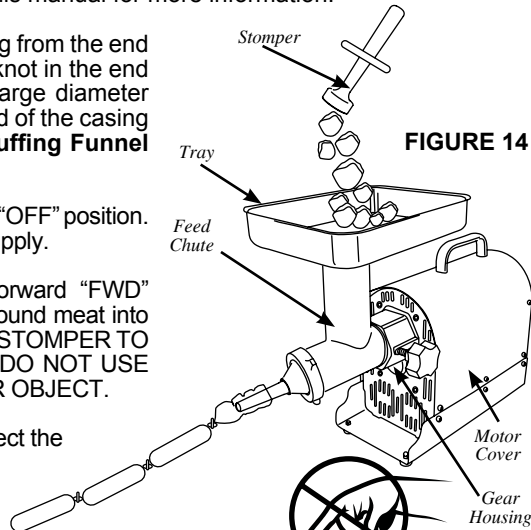

FIGURE 14
5. Slide 4”-6” (10-15 cm) of casing from the end of the **Stuffing Funnel** and tie a knot in the end of the casing. If you are using large diameter fibrous casing, hold the closed end of the casing tightly against the end of the **Stuffing Funnel** (Figure 14).